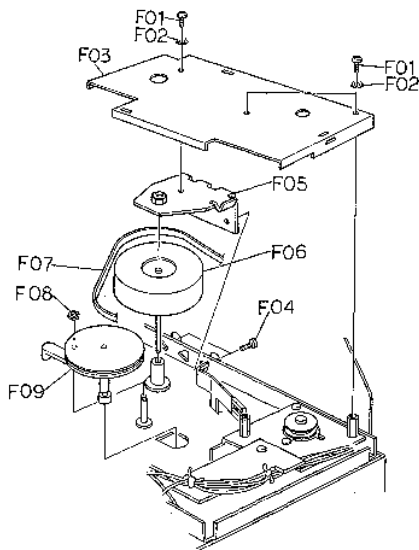

Fig. 3.11
Refer to Fig. 3.11. Remove mechanism ass'y referring to item 3.6. Remove F01 through F05, F06 (flywheel ass'y) and F07.
Refer to Fig. 3.11. Remove flywheel ass'y referring to item 3.16. Remove F08 and F09 (idler pulley ass'y).